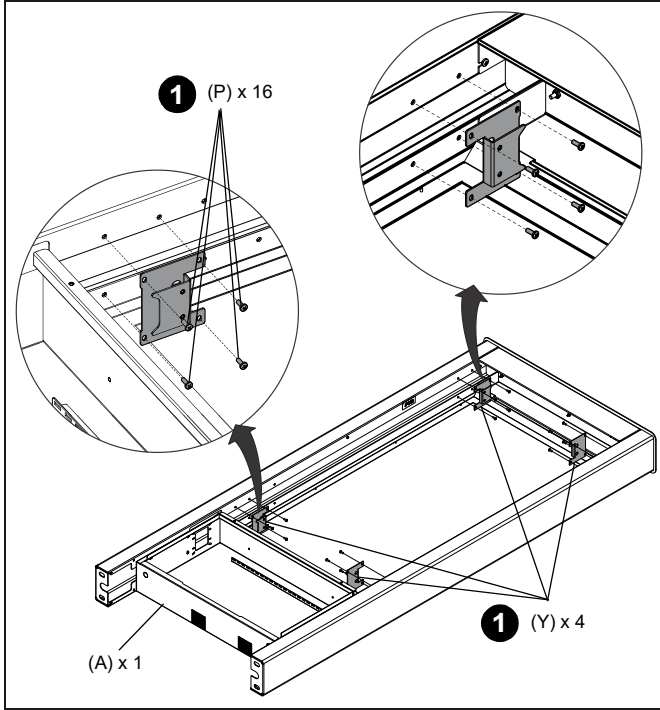

Figure 5
1. Install four interface plates (Y) to inside of kiosk frame (A) using four 10-24 x 1/2" screws (P) per plate.
NOTE: The orientation of the plates installed towards to top of the kiosk frame (A) is opposite of the plates installed towards the bottom of the frame. (See Figure 5)